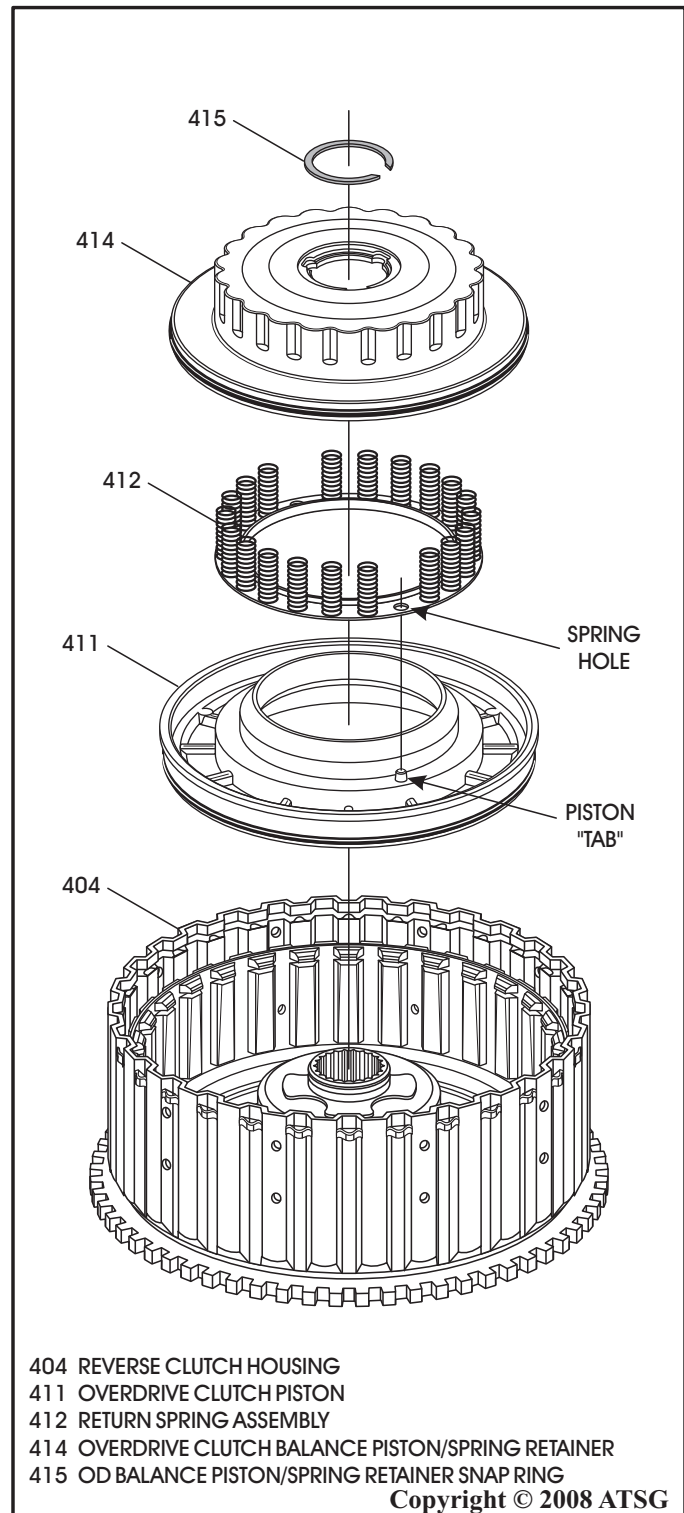

Figure 91
10. Install the overdrive clutch piston into housing, as shown in Figure 91.
11. Install piston return spring assembly, as shown in Figure 91.
Note: Ensure that holes in return spring are aligned with tabs on piston (See Figure 91).
12. Install overdrive balance piston, as shown in Figure 91.
13. Compress the assembly and install snap ring, as shown in Figure 91, and ensure snap ring is fully seated.